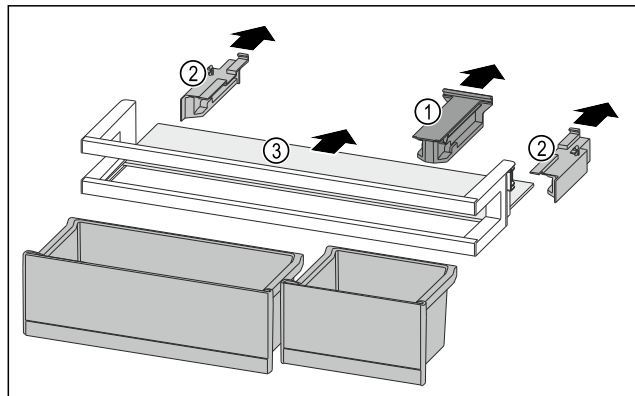

Fig. 159
- ▶ Pull off the holding part Fig. 159 (1).
- ▶ Pull off the side parts Fig. 159 (2).
- ▶ Remove the shelf Fig. 159 (3).